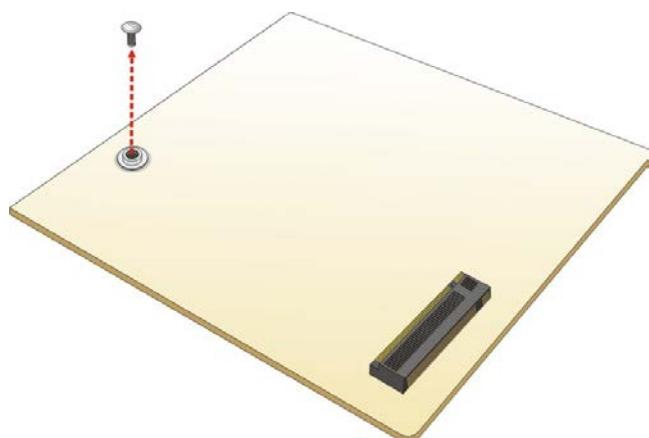

Figure 3-10: Removing the M.2 Module Retention Screw
Step 3: Remove the on-board retention screw as shown in **Figure 3-10**.